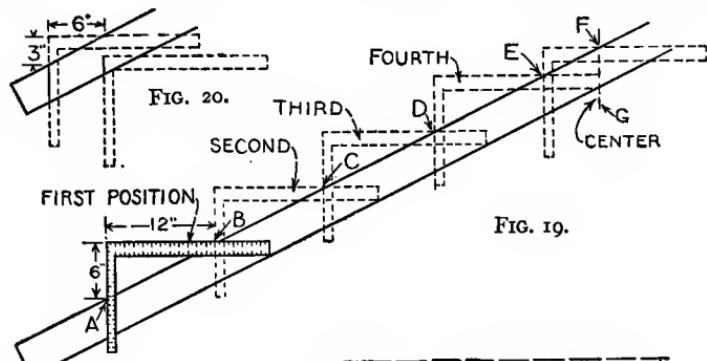

FIG. 19.
**To Lay Out the Length of the Rafters**, and cut off their ends at the proper angles to meet the *ridge-pole* and wall plates. The method of laying out the rafters for a  $\frac{1}{4}$ -pitch roof is shown in Fig. 19. A carpenter's steel square is necessary. Starting at the point *A*, which is far enough from
the end of the rafter to allow for the overhanging eaves, place the square upon the rafter with the 6-inch mark on the *tongue* (short end of square) at *A*, and the 12-inch mark on the *blade* (long end of square) at *B* (see "First Position," in Fig. 19). Mark these points on the rafter, then
**The Roof Framing.** The *hip-rafters*, and the center *jack-rafters* on each side, can be laid out by means of the steel-square method shown in Fig. 19. In the case of the hip-rafters, the distance across corners, diagonally, must be